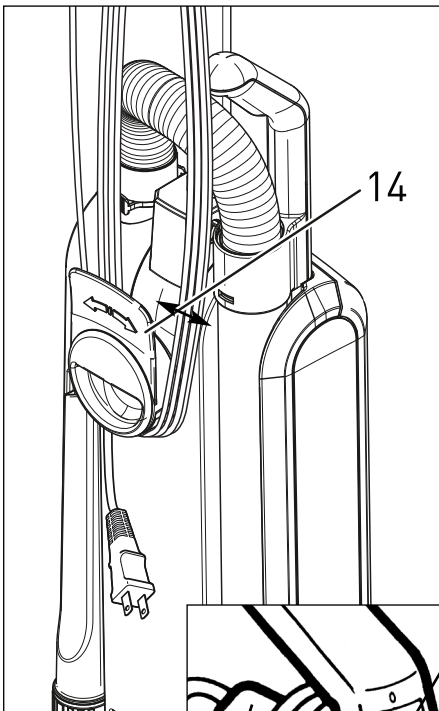

Figure 1
## Starting The Machine - Figures 1 & 2
1. Turn the quick release cable hook (14) to the up position by moving it to the left or right (figure 1).